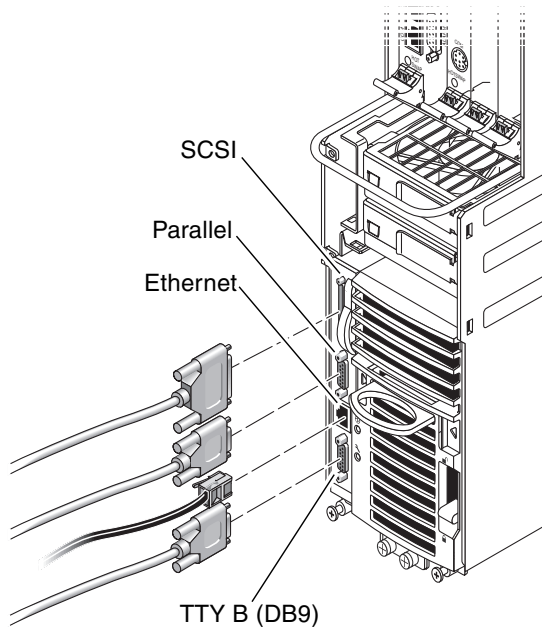

FIGURE 4-6 Connectors on the CPU Front Transition Card (Netra CT 410 Server)
- CPU front transition card, Netra CT 410 server—FIGURE 4-6